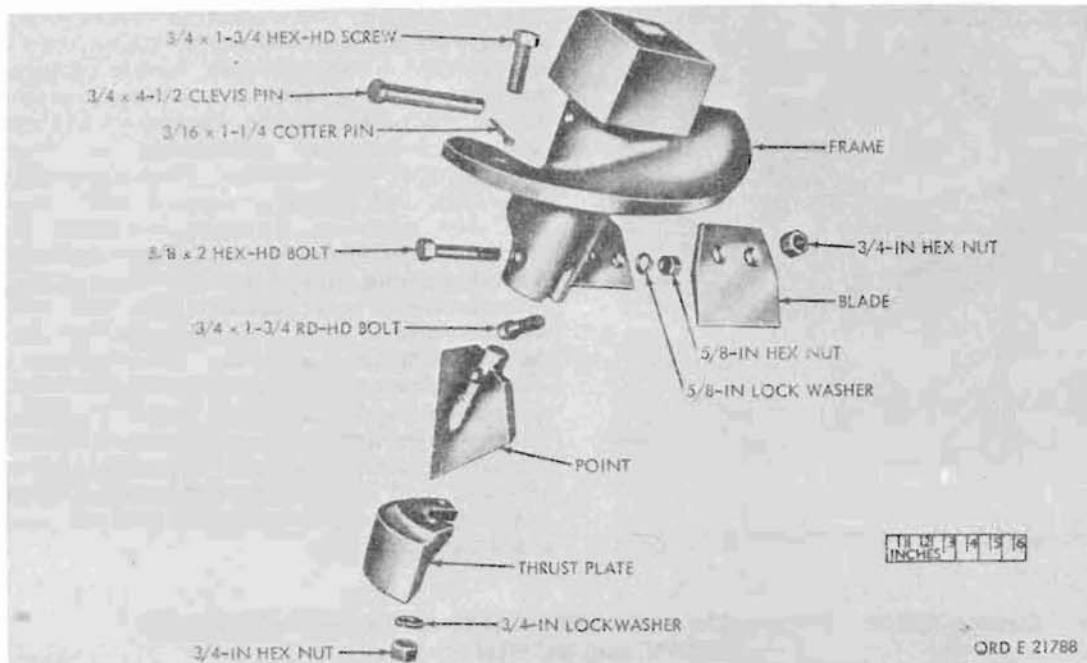

Figure 353. Auger - exploded view
b. Auger Blade, Thrust Plate, Point, and Pin Replacement (Fig. 353).